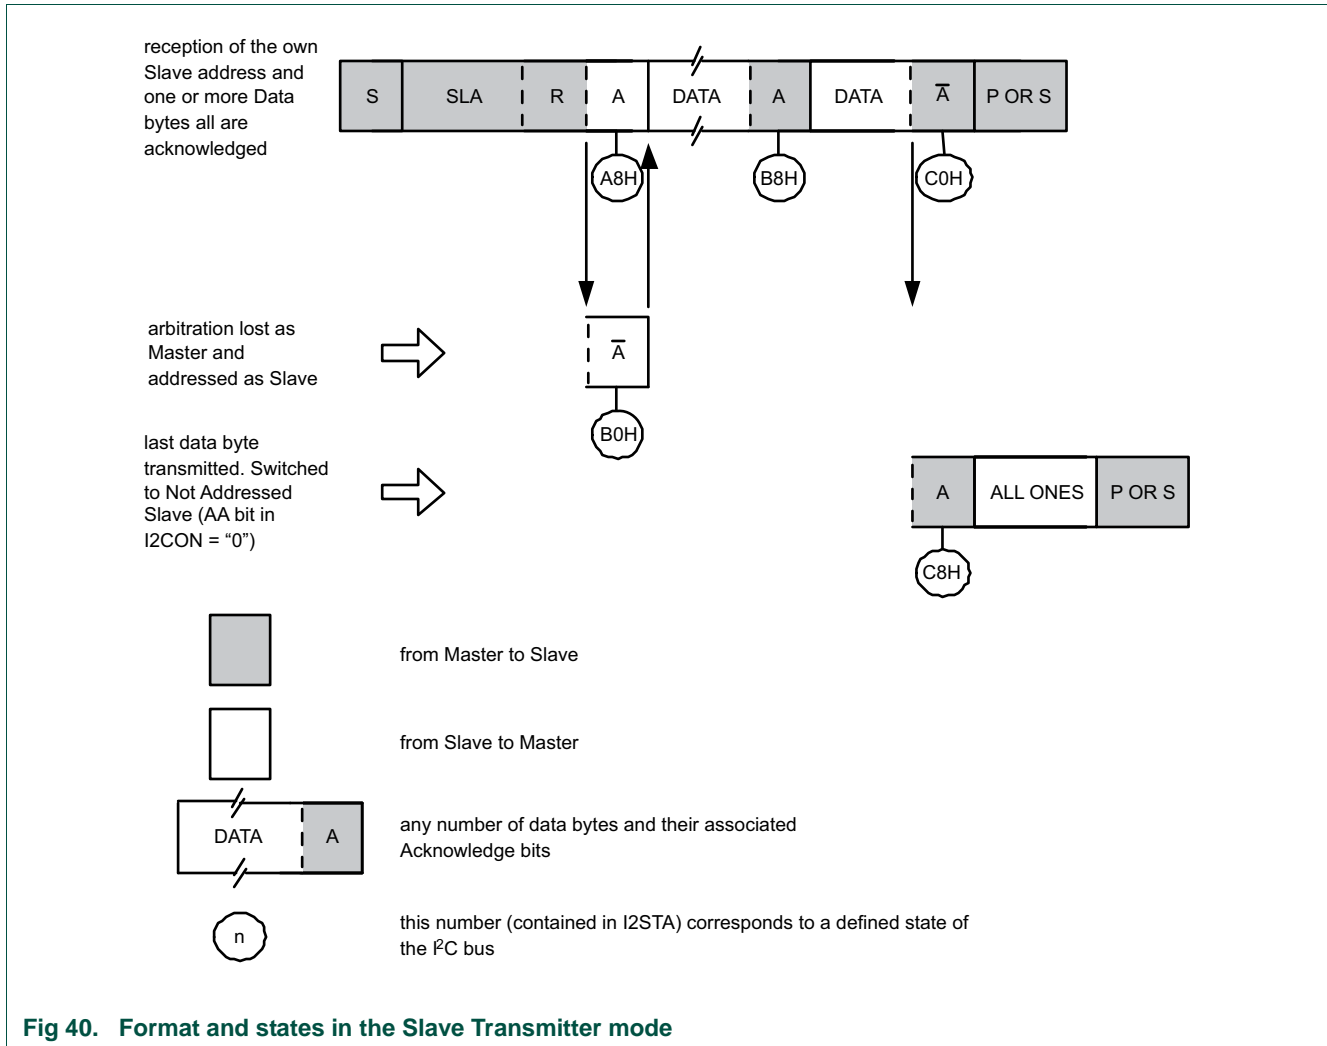

Fig 40. Format and states in the Slave Transmitter mode
In the slave transmitter mode, a number of data bytes are transmitted to a master receiver (see Figure 40). Data transfer is initialized as in the slave receiver mode. When ADR and CON have been initialized, the I²C block waits until it is addressed by its own slave address followed by the data direction bit which must be “1” (R) for the I²C block to operate in the slave transmitter mode. After its own slave address and the R bit have been received, the serial interrupt flag (SI) is set and a valid status code can be read from STAT. This status code is used to vector to a state service routine, and the appropriate action to be taken for each of these status codes is detailed in Table 215. The slave transmitter mode may also be entered if arbitration is lost while the I²C block is in the master mode (see state 0xB0).